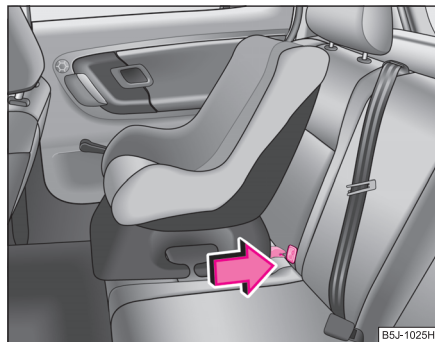

Fig. 131 The ISOFIX child seat is pushed into the mounting funnels
- Push the notched arms of the child seat over the mounting funnels into the locking eyes, until it is heard to lock ⇒ fig. 131.